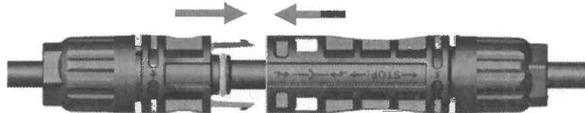

Figure 18
- 公母电缆连接器插合：在螺帽锁紧后将公母电缆连接器对插，对插时发出滴答声说明插合到位，拉拔电缆线，检查公母电缆连接器是否完全连接好（如图 18&19）。
Insert the female cable connector into the male cable connector when the gland nut is fully tightened. The connection of female and male cable connector is complete when an audible click is heard (Fig. 18&19).